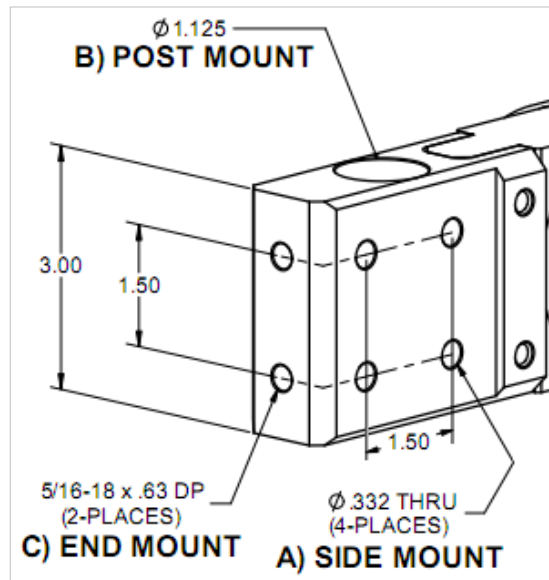

Figure 5 Mounting interface block borings
8. Inspect the mounting system to determine how the mounting interface block will be attached. There are three types of mounting interface blocks. As shown in Figure 5 on the next page, each is bored for: